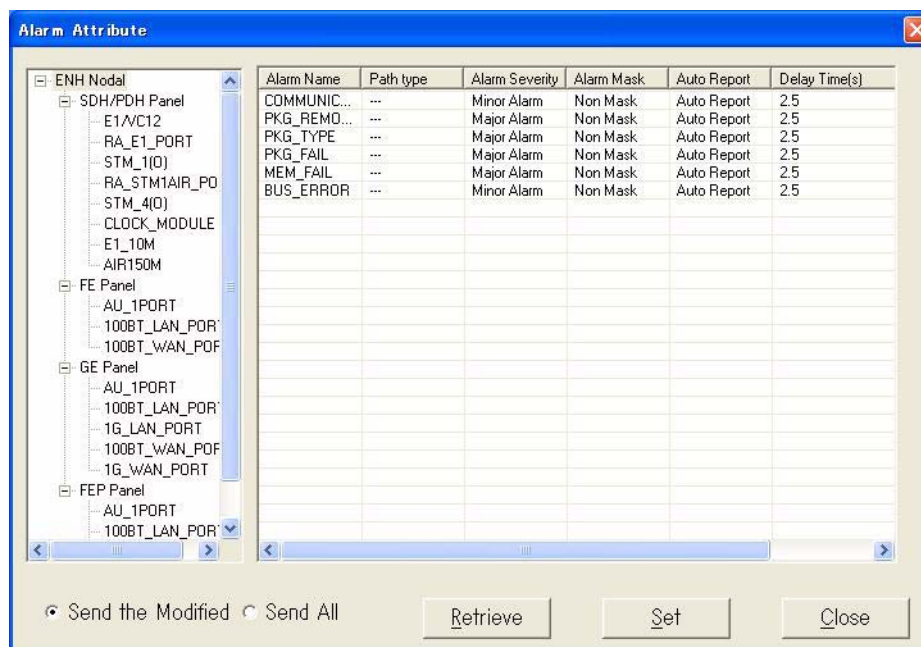

Fig. 4-7-6 Alarm Attribute Dialog Box
The Alarm attribute can be retrieved via the **Alarm Attribute** dialog box shown in *Fig. 4-7-6* appears.
- 2 Select **Alarm Attribute Setup** from the **Alarm** menu. The **Alarm Attribute** dialog box shown in *Fig. 4-7-6* appears.